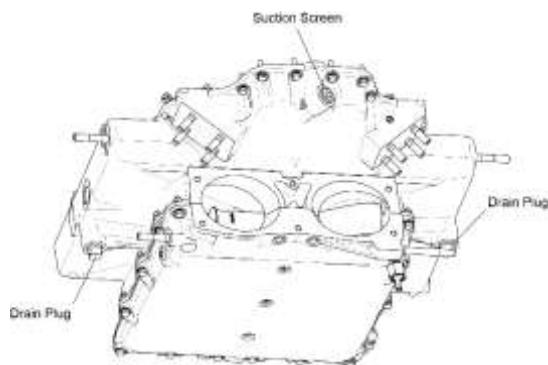

Figure 1
- C. Remove the two oil sump drain plugs (Figure 1).
- E. Remove, examine, clean, and reinstall the oil suction screen (Figure 1) per the “Oil Suction Screen Removal/Inspection/Cleaning/Installation” section in Chapter 12-10 of the **TEO-540-C1A Engine Maintenance Manual**.